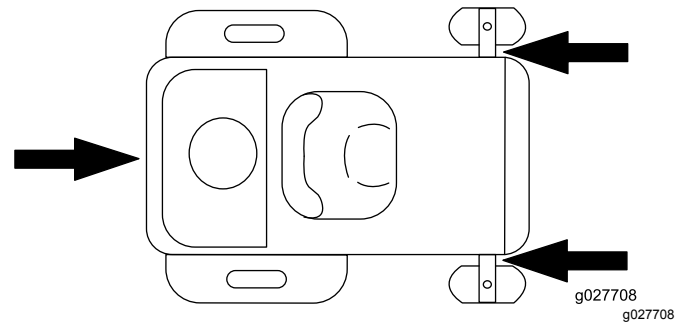

Figure 24
5. Tie down the machine near the front caster wheels and the rear bumper (Figure 24).